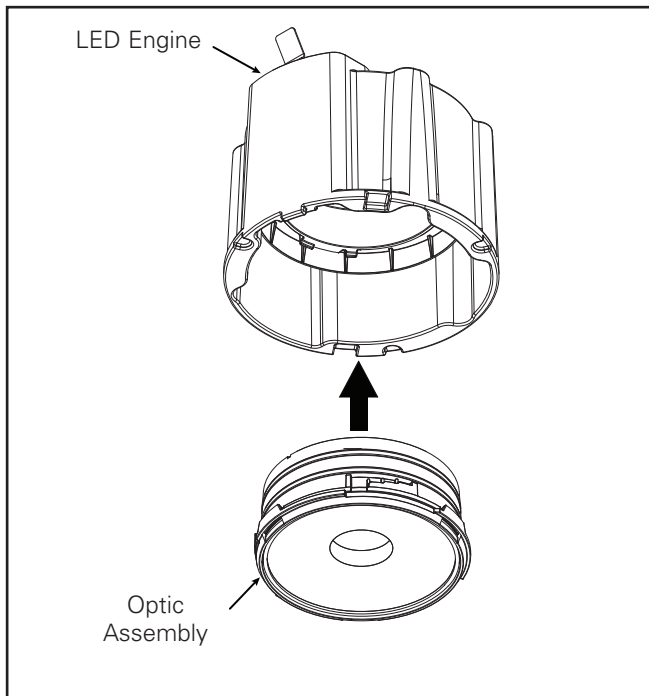

Figure 1
3. Insert optic assembly into LED engine holder and align it with opening slots on the LED engine's holder. (Figure 1)